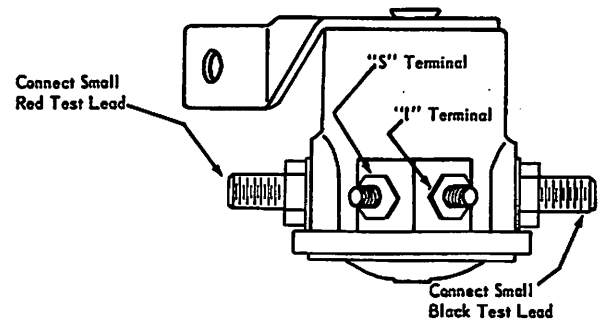

Figure 1. Terminals on Standard Solenoid
4. Connect small red test lead to one large terminal of solenoid and connect small black test lead to other large terminal as shown in Figure 1.